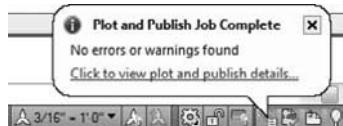

FIGURE 15.27 The notification balloon indicating that the plot is complete
8. After the print is done, a notification balloon appears at the lower-right corner of the AutoCAD window (see Figure 15.27). You can turn notifications on and off by right-clicking the Plot/Publish Detail icon in the AutoCAD tray and choosing the appropriate option.